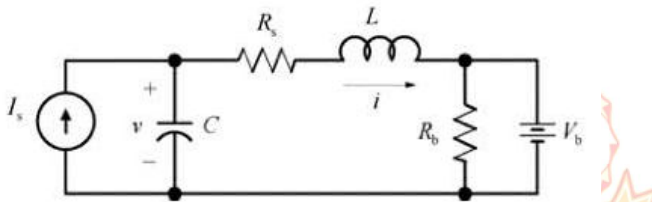

Fig.2
1. Develop a state space model for the following circuit shown in Fig.2
2. For the circuit shown in Fig.2,  $C=10\mu f$ ,  $L=5mH$ ,  $I_s=10A$  and  $R_b=100\Omega$  with proper time interval, simulate and plot the capacitor voltage.